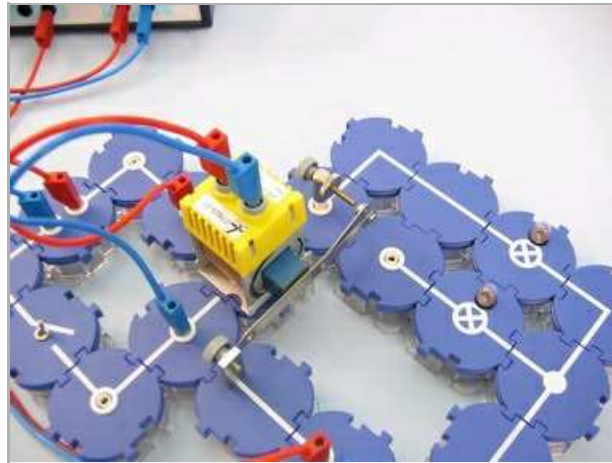

Fig. 4
- Fit the contact component in connecting building block 2; clamp the contact spring in the universal holder, so that the armature shows towards the contact component. Use the screw on the contact component to ensure that it makes good contact with the armature (see Fig. 4).